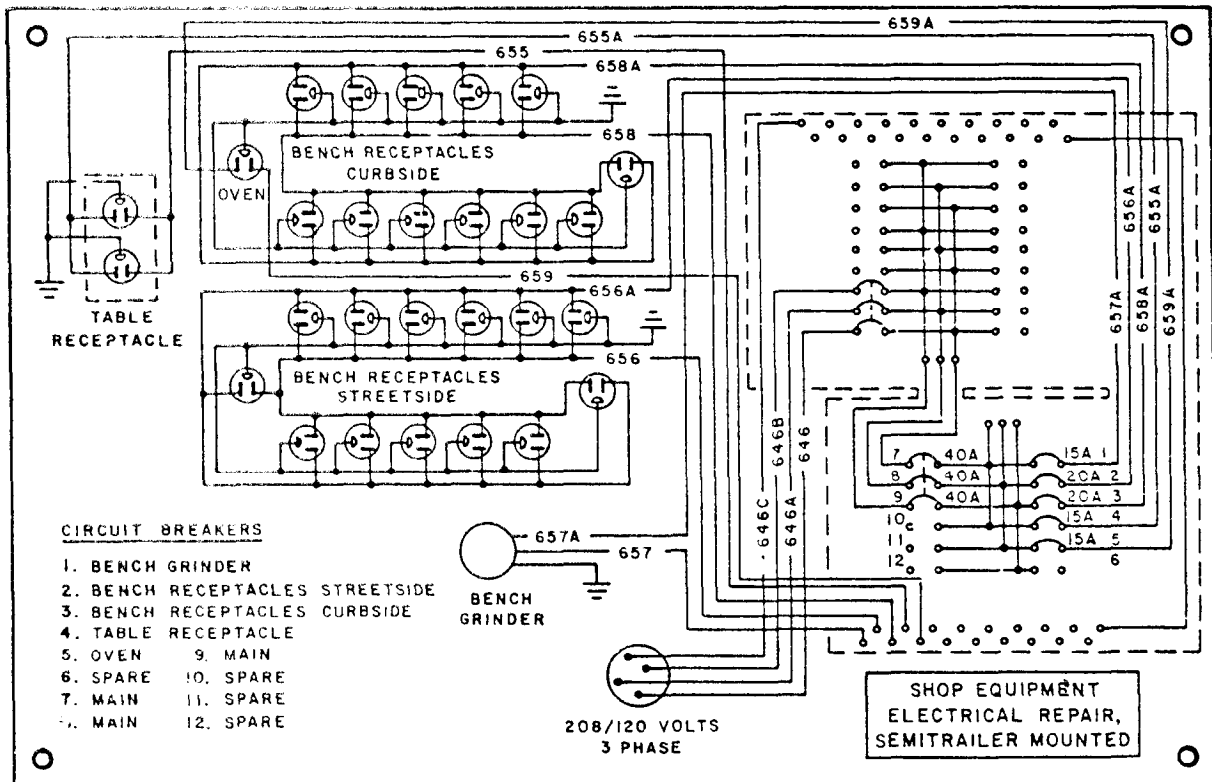

Figure 1. Workbench Wiring Diagram.
b. The manual provides information related to the contents of the shop equipment and the wiring diagrams (fig. 1 & 2). For operating and maintenance instructions pertaining to the trailer and components other than the shop set contents covered in this publication, refer to Appendix "A" References.